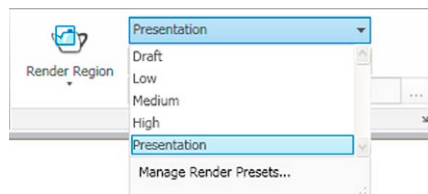

Fig. 15.27 Setting the form of rendering to **Presentation**
3. Select **Presentation** from the **Render Presets** menu in the sub **Render/Render** panel (Fig. 15.27).